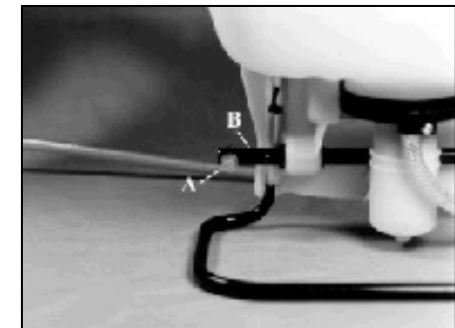

Fig. 41. Pump handle assembly.
- a. .Remove bolt and nut (Fig. 41-A) from pump rod (Fig. 41-B).